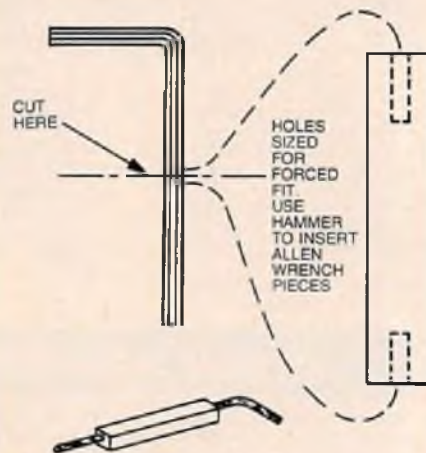

FIGURE 4
**NUMBER 5:** Recently, I have been using the IM engine mounts which employ Allen head screws to clamp the engine in place. Reaching these screws can be a problem using a standard Allen wrench, therefore, with the use of an 8mm square section of aluminum stock, approximately 50mm to 60mm long, a useful tool can be easily fashioned. See Figure 4.